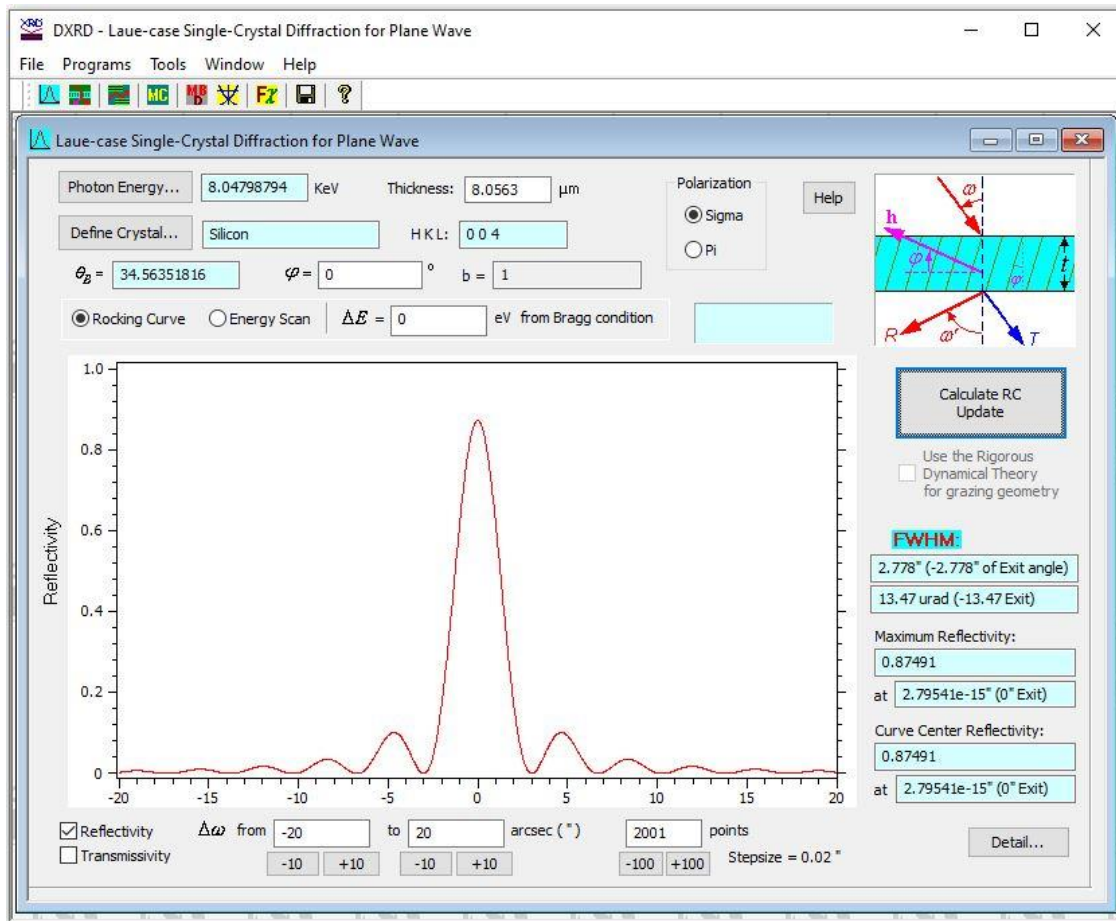

Figure A2. The Laue-case Diffraction program.
This program is similar to the above Bragg-case program. The major difference is that the “**Incident Angle ω** ” and the “**Exit angle ω'** ” are defined differently with respect to the Crystal Surface, see Figure A2. Also see the definition of the **Asymmetric Angle ϕ** . The crystal thickness for the Laue case must always be finite (> 0 , NOT -1). The Reflectivity (R) Curve for the Laue cases show oscillation fringes in most cases. In particular, thick crystals have rapid reflectivity oscillation. For a constant incidence angle, the reflectivity also changes periodically with crystal thickness, which is called the “**Pendellösung**” phenomenon. The periodicity is called the “**Pendellösung distance**”, denoted by $\tau(\Delta\omega)$. When the crystal thickness is $t = N\tau$, the central reflectivity becomes 0. The central reflectivity is maximized when at $t = (N + \frac{1}{2})\tau$. Here $N = 0, 1, 2, \dots$ is an integer. In the “**Detail...**” dialog, both the analytical “**Pendellösung distance**” and “**Half Pendellösung distance**” derived from analytical equations are provided at the Curve Center. The analytical values may be accurate for low-absorption cases. Numerical calculations of τ has not been implemented yet.